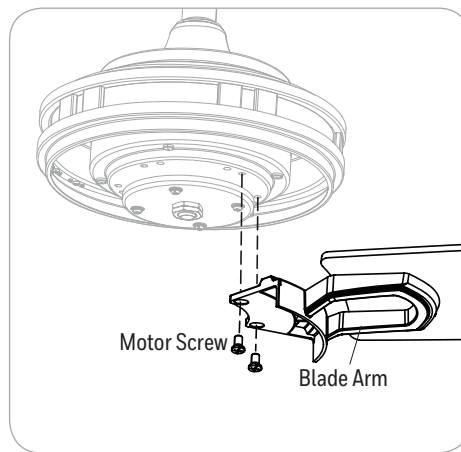

Figure 5.5
- Remove the ten motor screws from the motor assembly. Then install the blade arms into the underside of the motor assembly using the motor screws. Completely secure each blade arm to motor assembly before moving to the next (Figure 5.5).